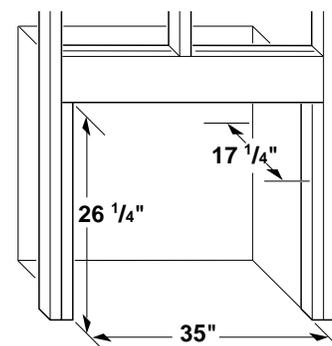

Figure 15 - Rough Opening for Installing in Wall
1. Frame in rough opening. Use dimensions shown in Figure 15 for the rough opening.